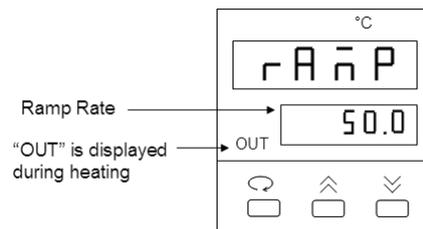

Fig. 2. Ramp Control Screen.
2. Use the  key to display the ramp control screen. (Fig. 2.)